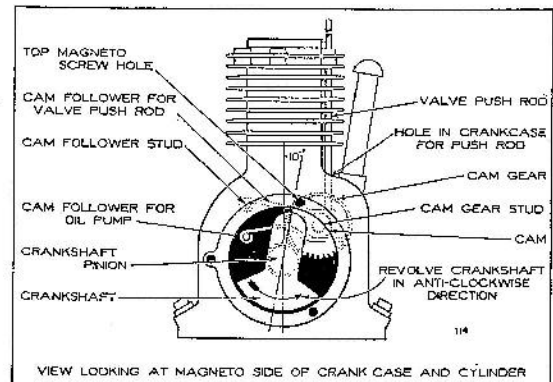

FIG. 13—TIMING
62. The Model "FH" motor is properly timed as outlined in the following paragraphs. For illustration see Fig. 13.
**64. How to Check Timing.** Revolve crankshaft in anti-clockwise direction holding finger lightly on top of valve push rod, and again experimenting for rising position of the rod, as in paragraph 63. The valve push rod should begin to rise when crankshaft is in position shown in Fig. 13. (10° to the right of Center Line or almost in line with Top Magneto Screw Hole.)
**65. How to Correct Timing.** If crankshaft is not in correct position as indicated in Fig. 13, disengage crankshaft gear from cam gear by withdrawing crankshaft slightly, and turn crankshaft in necessary direction to correct its position and mesh again with cam gear. Then recheck as in paragraph 64.